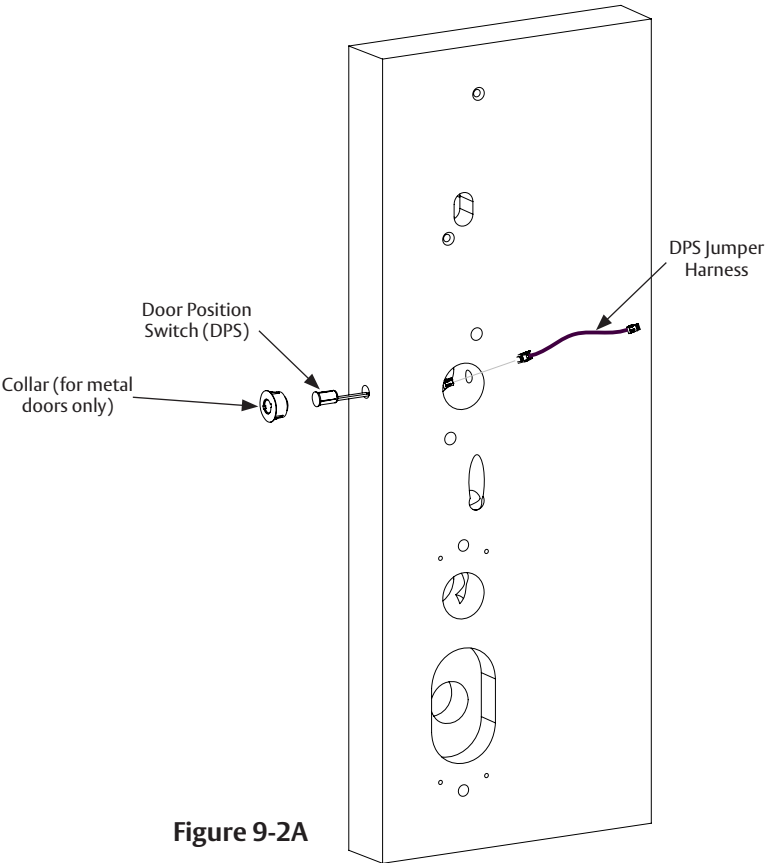

Figure 9-2A
1. Insert connector end of DPS through the raceway on the latch edge of the door (Figure 9-2A).